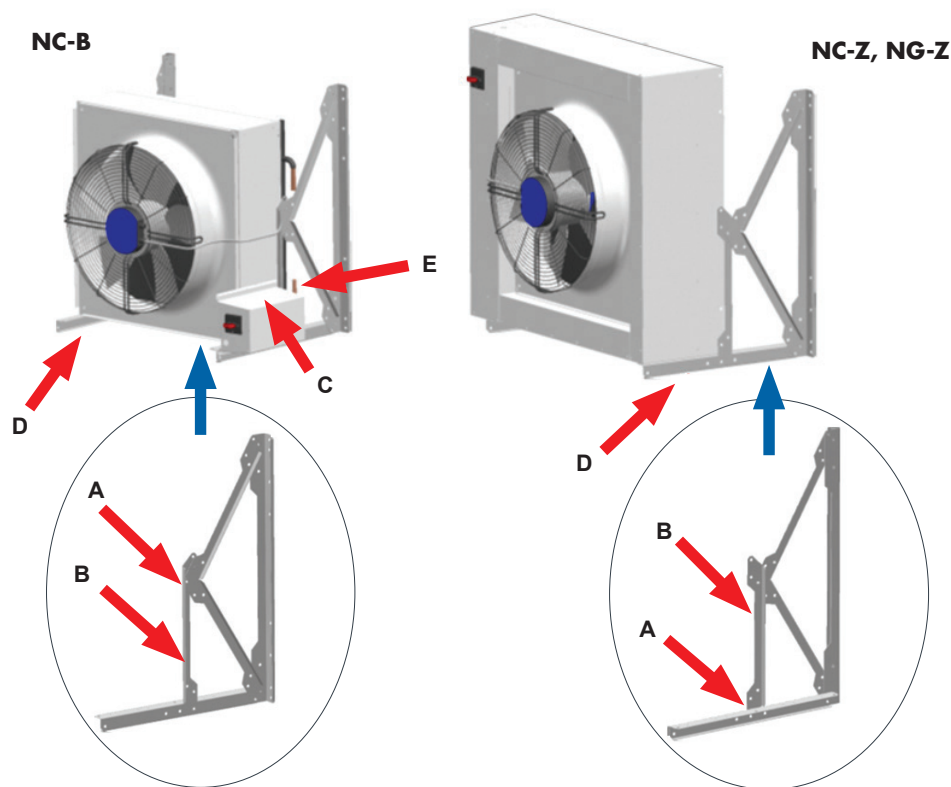

Figure 8. Horizontal Airflow Configuration
- OACC model **NC-Z** and **NC-B** and OAFC model **NG-Z** assembly is shown in Figure 8:
- ▶ Assemble left and right mount legs as shown with provided bolts, nuts, and washers (except for joint point (A) – it must be bolted to the condenser/cooler)
- Note that the cross-piece (B), that is to be attached to the equipment, is mounted differently for NC-Z/NG-Z and NC-B.
- For Outdoor Condenser **NC-B**: electric box is positioned as shown – horizontal, with drip protection bend (C) at the top;
- For all Outdoor Condensers (**NC-Z** and **NC-B**): refrigerant connections are on the side AND liquid line connection (refer to condenser labels) is the bottom one, (E).
- ▶ Align respective holes in cross-piece (B) and the holes in the equipment and attach them with provided bolts, nuts, and washers.
- ▶ Attach rear support braces to the condenser with provided self-tapping screws (D)